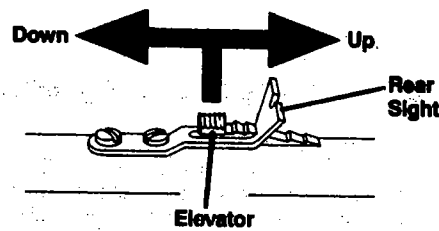

Fig. 8
- The rear sight may be adjusted to shoot higher or lower (elevation). Move the rear sight elevator back to make the pellet hit higher on the target. Move the rear sight elevator forward to make the pellet hit lower on the target. When moving the elevator, slightly lift the rear sight and reset it on the desired notch in the elevator. (Fig. 8)